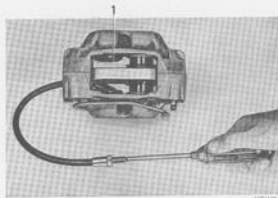
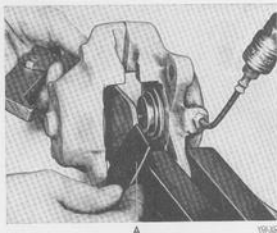

Fig. 5-21. Removing pistons
Fig. 5-26. Removing piston
2. Remove the retaining rings and the rubber dust covers. Place a wooden disc, see Fig. 5-3, between the pistons and press them out towards the disc with the help of an air line, see Fig. 5-21. The pistons can then be easily removed. If a piston feels stiff to remove so that more pressure is required, connect up an airline, see Fig. 5-26. Lever off the rubber covers.
3. If a piston feels stiff to remove, connect up an air line, see Fig. 5-26. If one of the pistons is removed, the cylinder can be sealed by means of a rubber washer and 2809 (see Fig. 5-26).